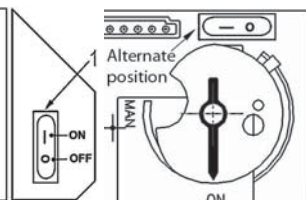

Fig 2A
1. **STOP!** Read the safety information above. Dependent on model, switch #1 may be mounted directly to valve see Fig 2A.